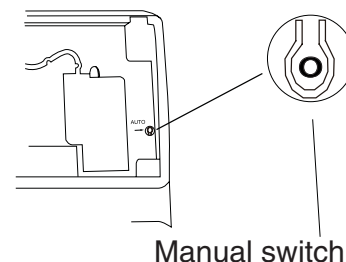

Fig. 4
4.9 Emergency Operation (Fig. 4)